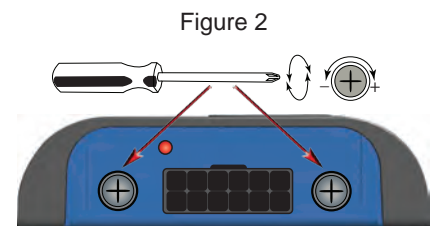

Figure 2
4. Slowly adjust level on LP7-4 until you reach the target voltage of the amplifier. (figure 2)
3. Slowly adjust front channel gain of LP7-4 until just a hint of distortion is audible, and then back down gain just under that threshold and the distortion goes away. (figure 2)